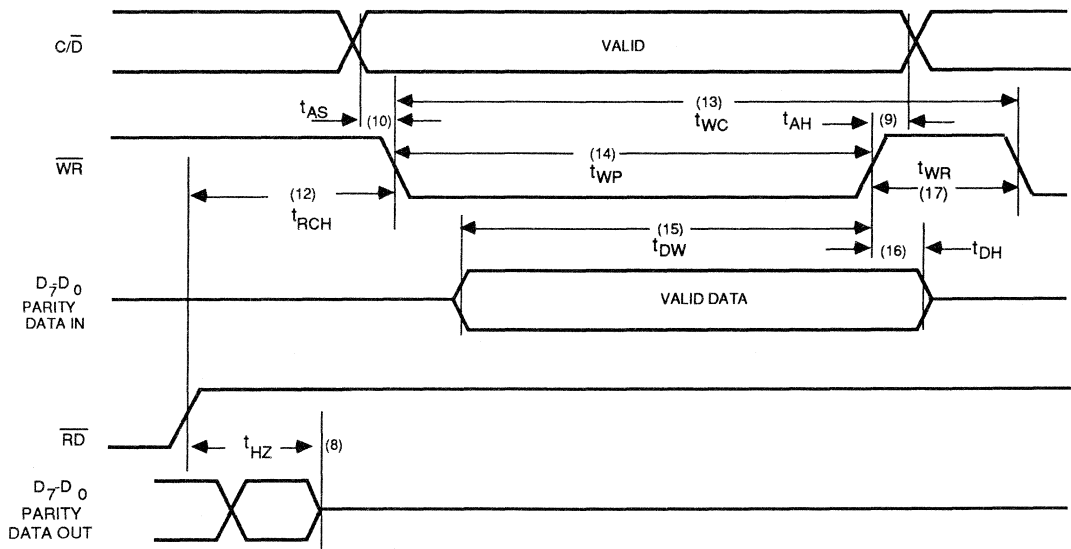

Figure 12. Write Cycle (Either Port)
**Write Cycle** (Fig. 12, 21, 22)